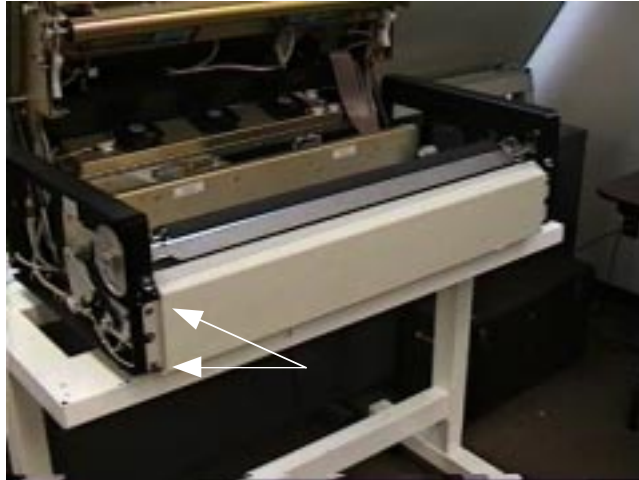

Fig. 2
4) Remove four 10-32 hex screws (2 ea. side) that hold the front cover. (Fig. 2)